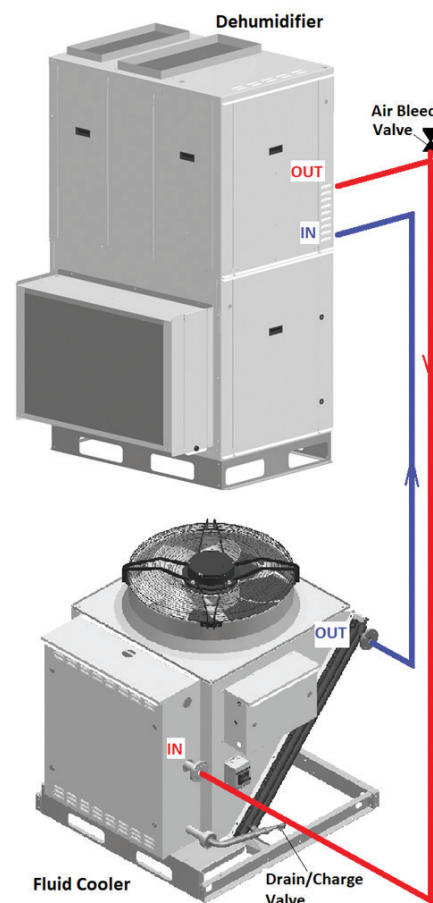
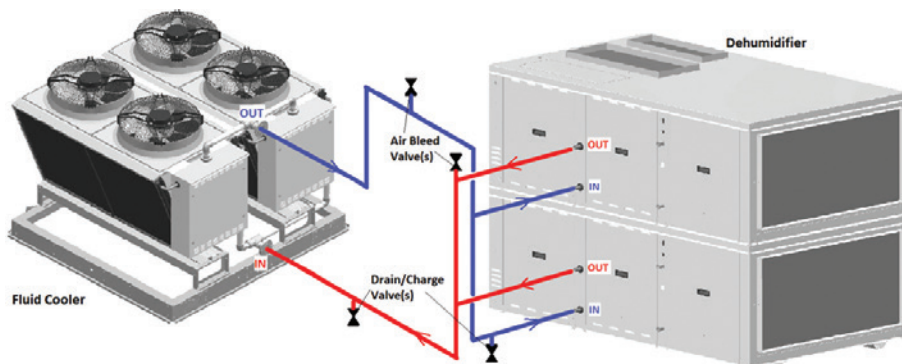

Figure 20-1. Piping Schematic for Single Cooling Circuit
Figure 20-2. Piping Schematic for Multiple Cooling Circuits
- ▶ Install drain/charge valve(s) at the lowest point(s) of the line set; install air bleeding valve(s) at the top point(s) of the line set (see Figures 20-1 & 20-2).
Figure 20-1 shows typical piping schematic for single fluid cooler serving single cooling circuit. Piping schematic for single fluid cooler serving multiple cooling circuits (two-decks dehumidifiers etc.) is shown in Figure 20-2